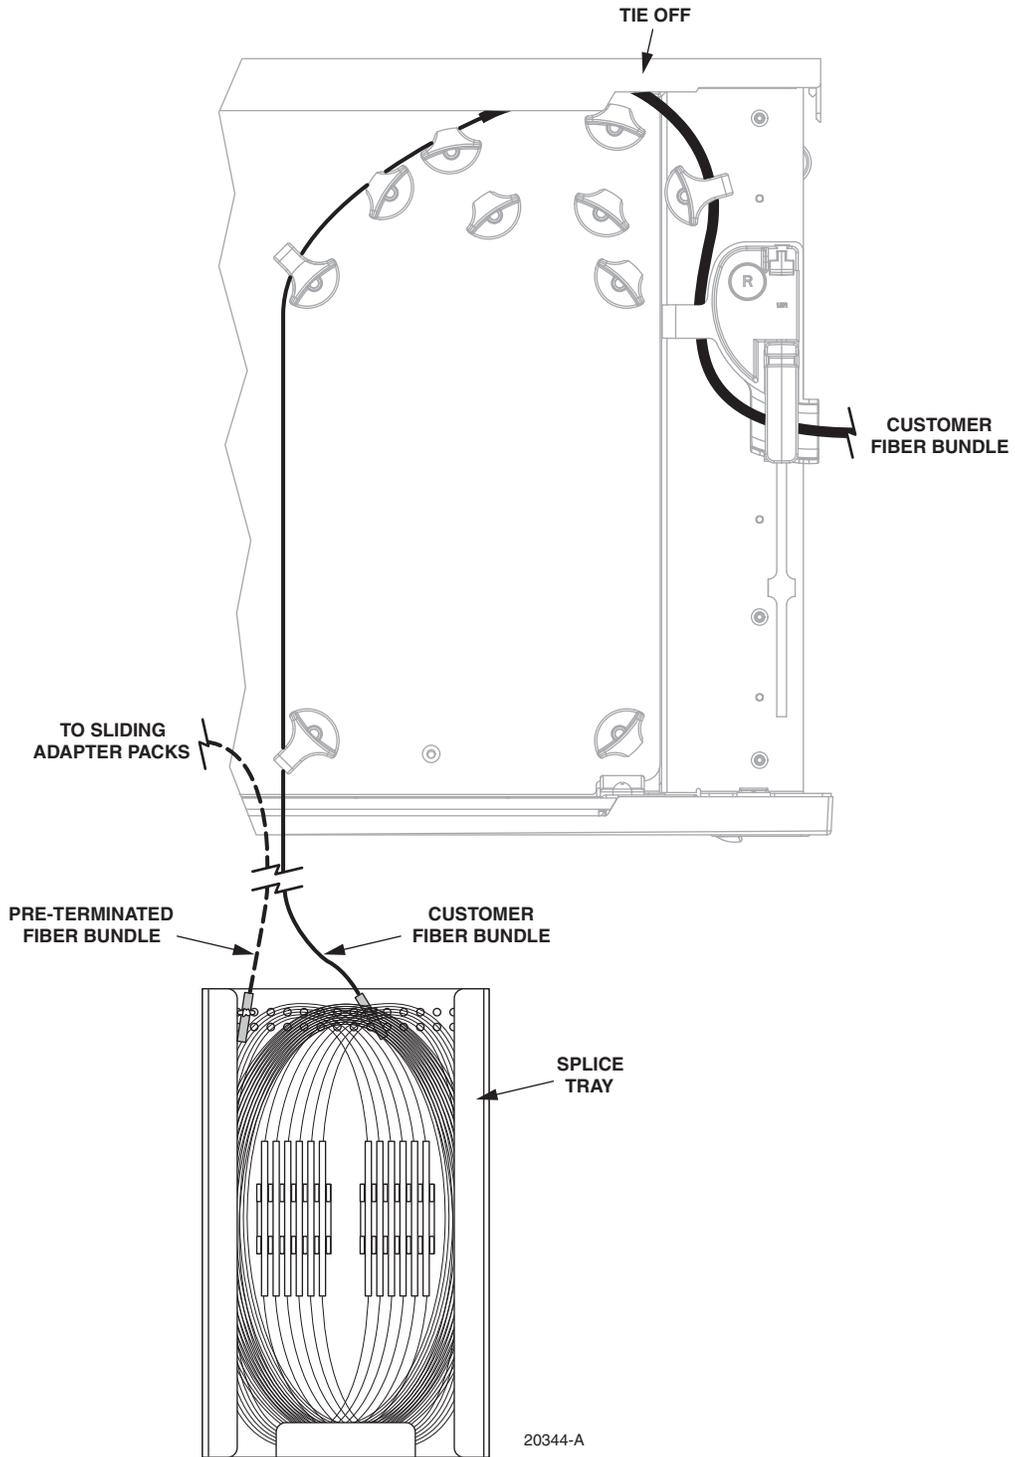

Figure 16. Cable Routing for 12-Position Termination and Splice Tray, Step 2
2. Route the cables into the tray as shown in Figure 16, and perform the splices outside the tray at an adjacent work area, as shown. Perform the splices following local practice. Refer to pigtail installation drawing (provided with FMT) for pigtail connection scheme.